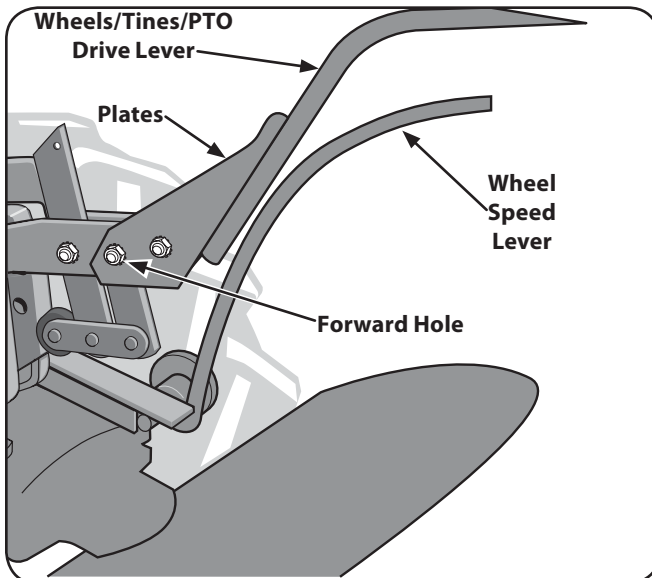

Figure 3-7
3. Slide the plates at the end of the Wheels/Tines/PTO Lever over the yoke plates. See Fig. 3-7. To aid in the next step, insert a screw temporarily into the forward most holes of the yoke plates and the lever.